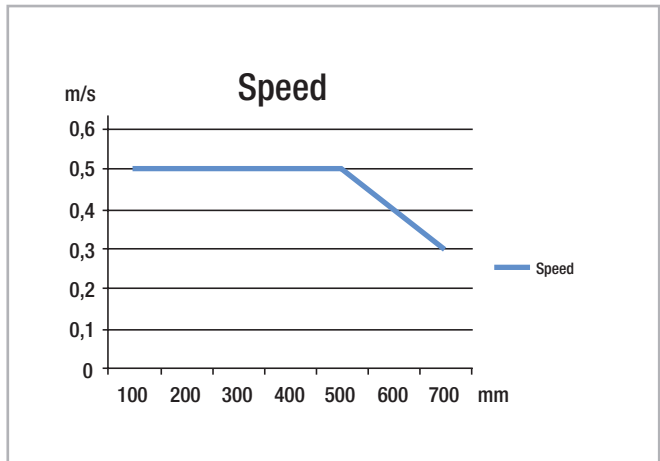

Fig. 24
The extension speed is determined by the size of the intermediate elements. Therefore, the maximum extension speed is inversely proportional to the overall extension of the rails (see fig. 24). The maximum extension speed is also directly related to the applied load and operating time. The indicated data refers to continuous operation at the maximum load capacity.
- Light Rail full and partial extensions are suitable for use in automatic systems. For this, the stroke should remain constant in all moving cycles and the extension speed must be checked (see pg. LR-14, fig.24). The movement of the extensions is enabled by internal ball cages, which could experience an offset from the original position with differing strokes. This phase offset can have a negative effect on the running properties or limit the stroke. If differing strokes occur in an application, the drive force must be sufficiently dimensioned in order to appropriately synchronize the ball cage offset. As an alternative, an extra full stroke cycle can be performed every certain number of cycles, in order to re-phase the ball cage in its correct position.